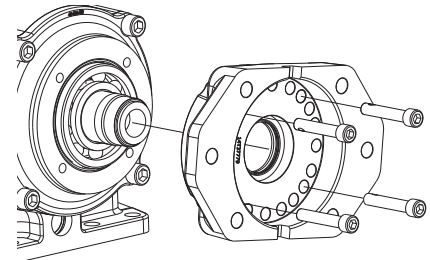

Figure 2 – Flange/Seal Assembly Removal
4. Remove the flange/seal assembly (26) by removing the four socket capscrews (hex head capscrews for a "B" output) (27) from the flange (26) using a 5/16" Allen wrench (9/16" wrench for "B" output). *See Figure 2*